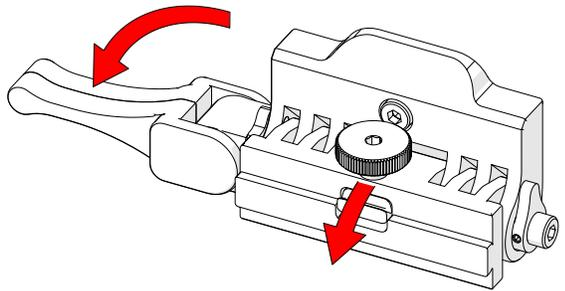

Fig. 62 - Angle pivot nose down
2. Release the side lever of the Raster Arm HT pivot nose (*male*) and angle the Raster Arm HT pivot nose downward (Fig. 62).